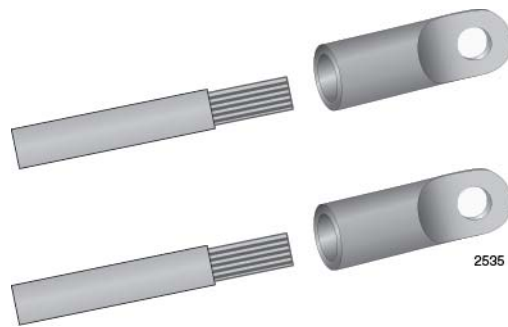

Figure 122. Attaching the Power Wires to the Straight Terminal Lugs
2. Insert the power wires into the terminals included with the power supply and use a crimping tool to secure the wires to the terminals. See Figure 122.